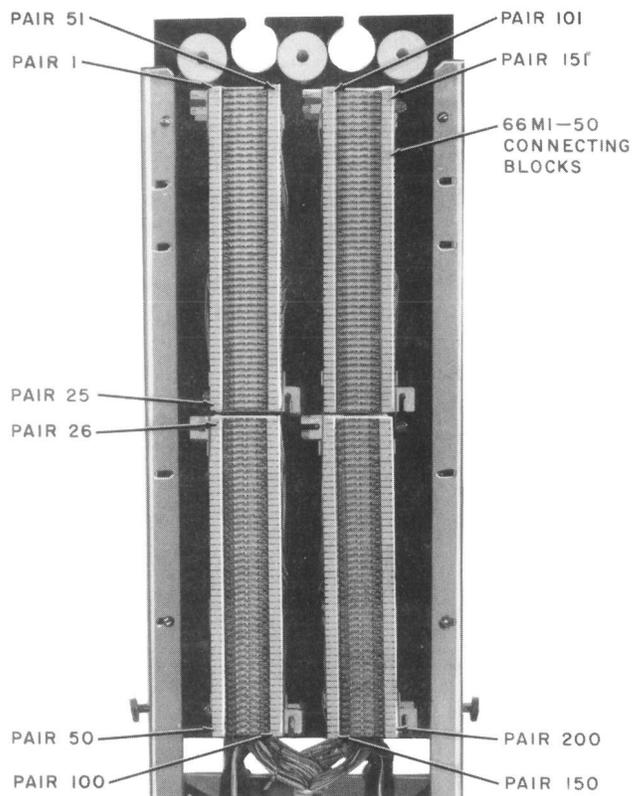

Fig. 24—Cable Terminated on 66M1-50 Connecting Blocks (LG-10//43)
10.10 Terminate the conductors on the connecting blocks as outlined in 10.06. Figure 24 illustrates the cable pairs terminated on the 66M1-50 connecting blocks.